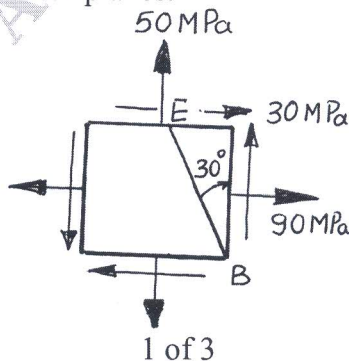

Fig.Q.3(b)
- b. For an element loaded as shown in the Fig.Q.3(b), find: